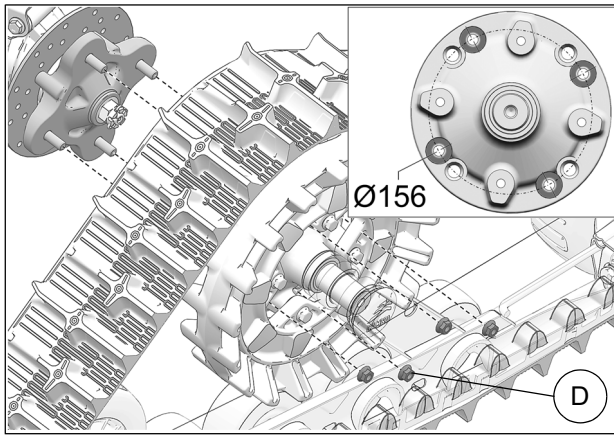

Fig. 23
7. Secure undercarriage to front hub using the provided 3/8-24 lug nuts (D). Use bolt circle Ø156mm. Fig. 23